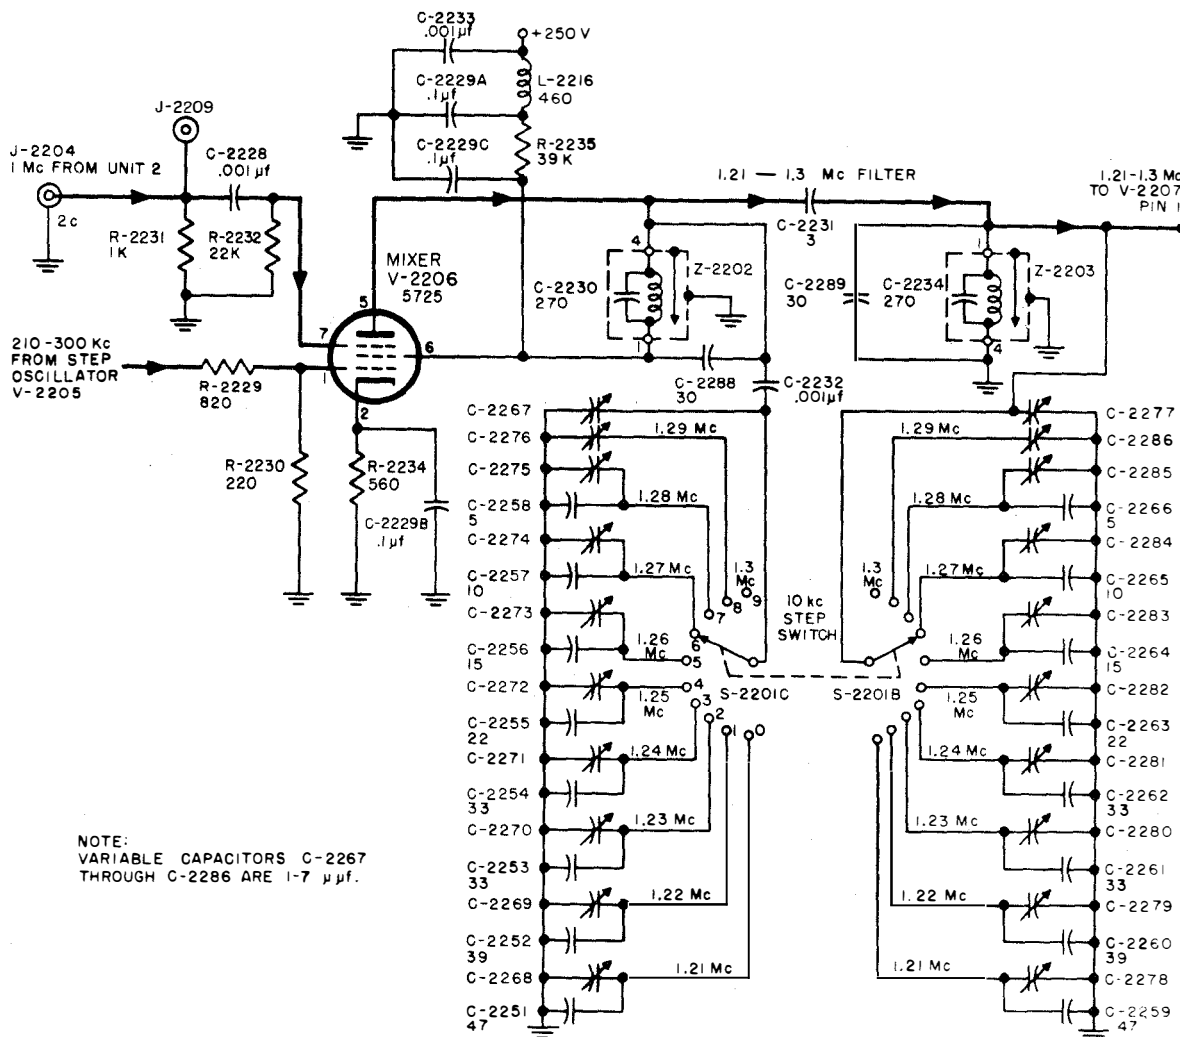

Figure 2-18. RFO Unit 6, Mixer V-2206, Simplified Schematic
(4) 1.21- TO 1.3-MC MIXER V-2206.—This mixer (figure 2-18) receives two signals: the oscillator output (210 to 300 kc), which is applied to the control grid, and the 1-mc output (2c) from unit 2, which is applied to the suppressor grid. The oscillator output signal amplitude is reduced by the voltage divider, R-2229 and R-2230. The 1-mc signal is received through J-2204, load resistor R-2231, coupling capacitor C-2228, and resistor R-2232. Test point J-2209 is provided for testing output 2c (approximately 1.2 volts). Mixer V-2206 combines 1 megacycle with the oscillator output to produce frequencies in the range of 1.21 to 1.3 mc. The mixer is provided with a double-tuned output filter, consisting of Z-2202, C-2288, C-2267, Z-2203, C-2289, C-2277, and the capacitors switched in and out